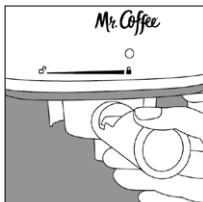

Figure 2
4. Insert empty portafilter (without coffee grounds) into the machine from left and turn to the right to lock into place (Figure 2). This can be tricky the first time you try, so don't worry. The best way to learn is to look at the shape of the top of the portafilter. It can be inserted by placing it from the left